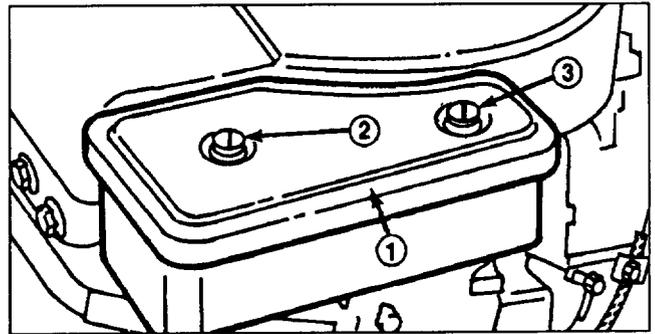

Figure 16
2. Remove air cleaner stud, screw and cover. Replace cover gasket if damaged (Fig. 16).